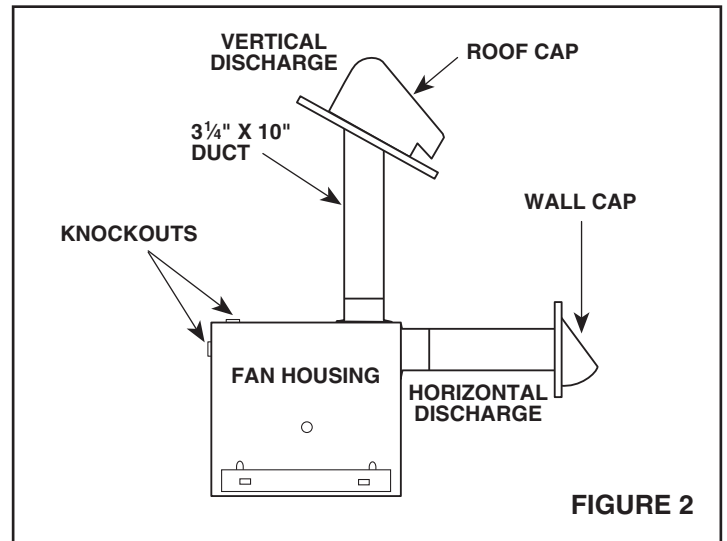
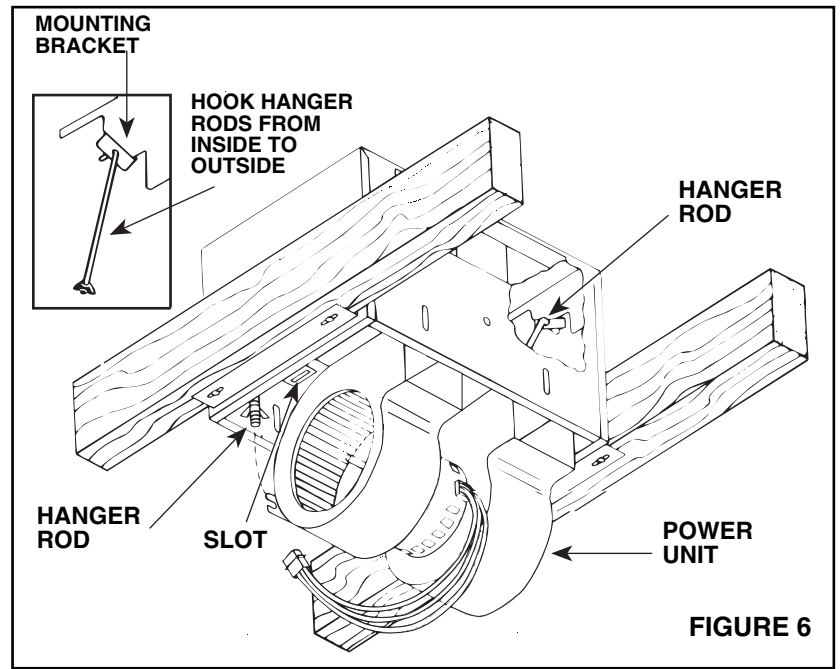

FIGURE 2
FIGURE 6
- Refer to Figure 2. This unit can be ducted for either vertical or horizontal discharge. Determine the method of discharge that will be used.
3. Refer to Figure 2 and mounting instructions included with caps. Install standard 3 1/4" x 10" ductwork from damper section to outside wall or through roof and mount appropriate wall or roof cap (optional).
1. Refer to Figure 6. The Power Unit mounts with two hanger rods to the mounting brackets. Insert the hanger rods through the holes in the mounting bracket.
WIRING AND DUCTING – Refer to **Figure 6** for wiring and to **Figure 2** for ducting. Plan ducting and wiring before proceeding with installation.